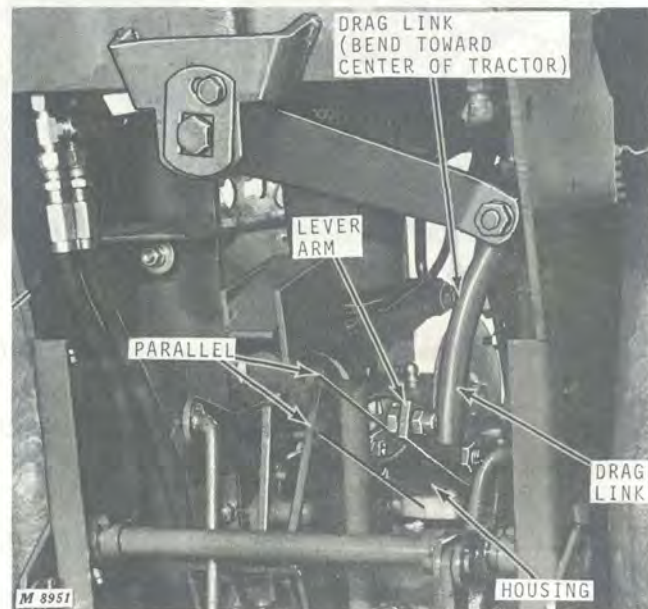

Fig. 21-Aligning Steering Gear
Visually check alignment of lever arm with steering gear housing, Figure 21. When properly aligned, lever arm will be parallel with the steering gear housing when the front wheels are pointed straight forward. Install drag link and tighten nuts securely.
**IMPORTANT: Be sure drag link is positioned as shown in Figure 21, with the bend pointing toward the center of the tractor, before tightening jam nuts.**
6. Turn steering wheel until the lever arm is parallel with steering gear housing. See page 10-8, Figure 21.